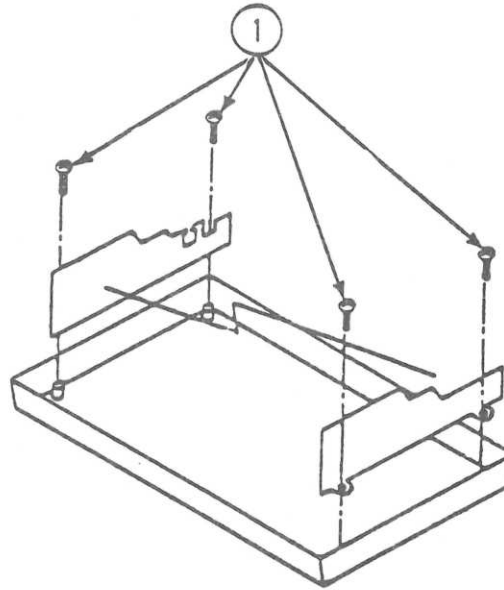

FIGURE 30
2. Replace the four screws. (See Figure 30, #1.)